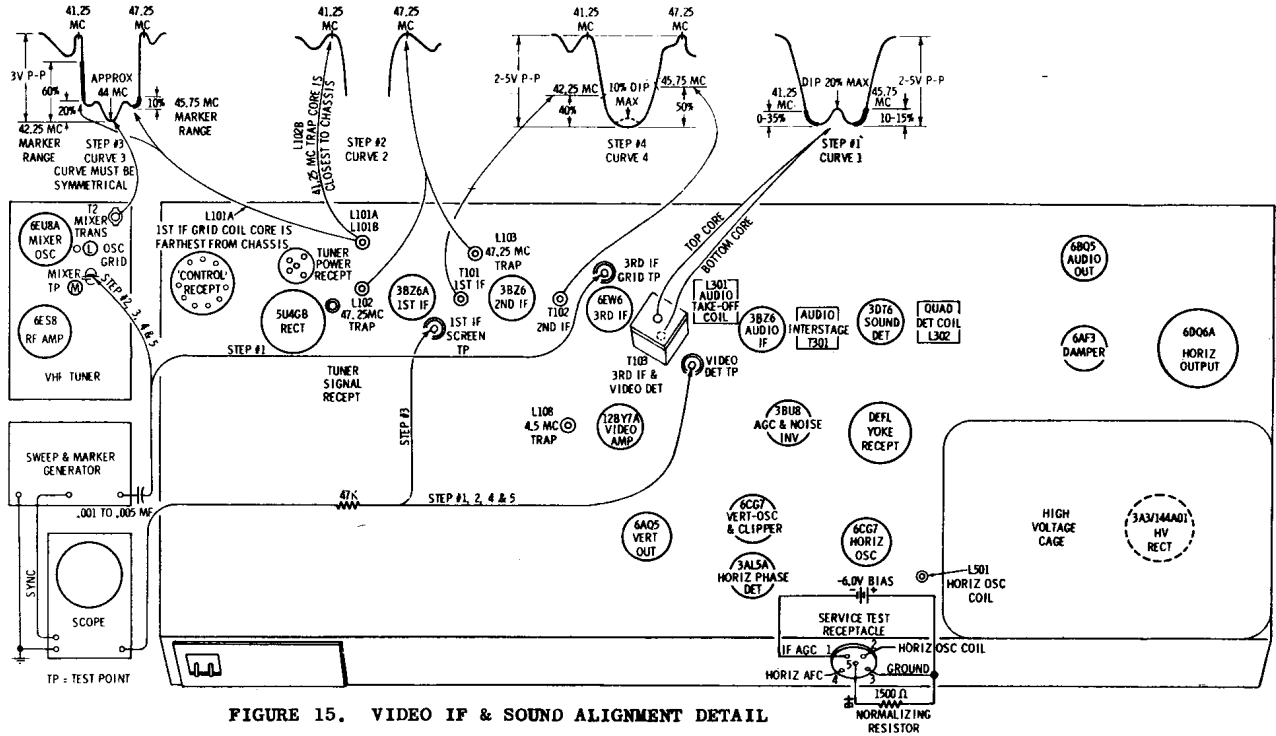

FIGURE 15. VIDEO IF & SOUND ALIGNMENT DETAIL
3. Disable oscillator by shorting point "L" located near oscillator tube V-2, to chassis. See Figure 15.
10. Refer to Video IF & Sound Alignment Detail for component and test point locations (Figure 15).